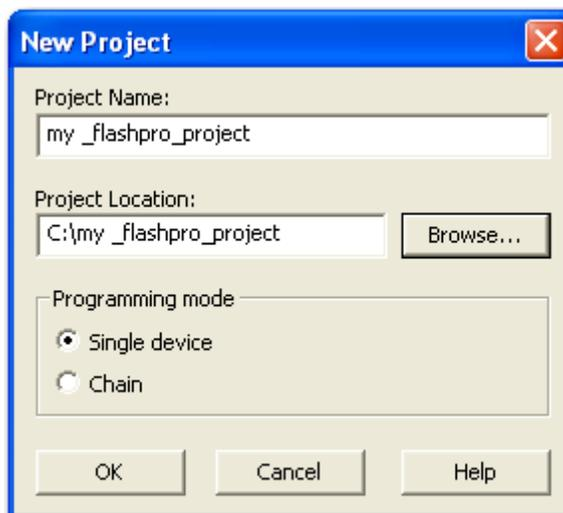

Figure 2-1 · Creating a FlashPro Project
2. Browse to the location where you would like to save the Flashpro project. Verify that programming mode is set to Single device. Click OK (Figure 2-1),